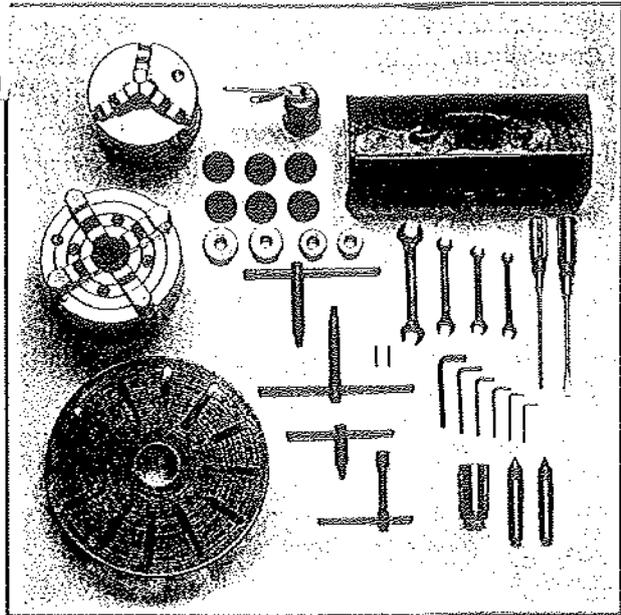

Fig. 1
**Tool Box Contents (refer to Fig. 1):**